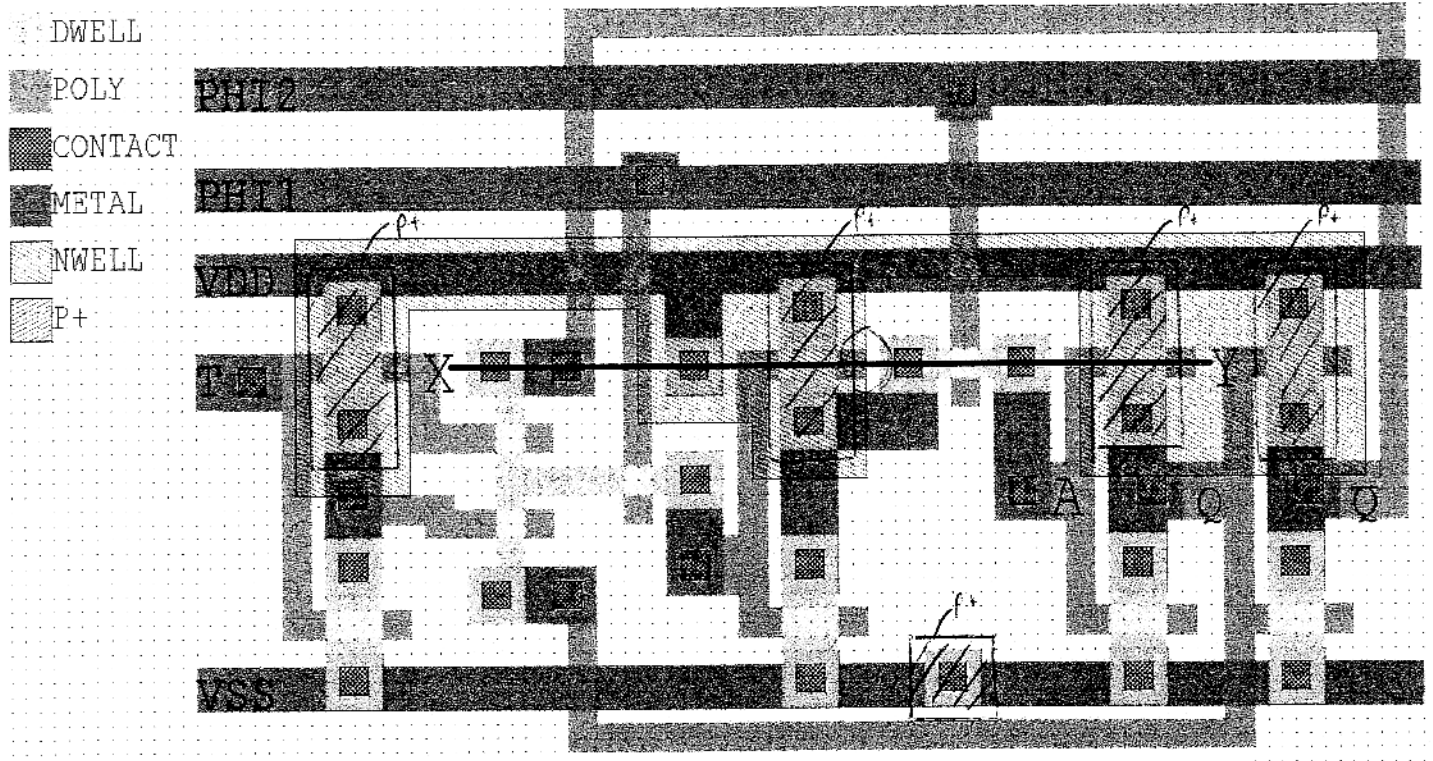

Fig. 1.1
1. Fig. 1.1 on p. 8 shows the layout of a circuit fabricated in the n-well CMOS technology used in Lab 2. The layout is not complete: the p+ mask is not shown. Draw the outline of this region (or regions) on the layout, and use cross-hatching to indicate the interior of the region. (Note: In this CMOS technology, by default any region which is not covered by the p+ layer receives the n+ implant) 4 marks
2. In the space provided below the layout in Fig. 1.1, carefully sketch a cross-section through the integrated circuit along line X-Y (i.e., show how the IC would look if cut along line X-Y and viewed from the side). Indicate the n-well and n+ and p+ regions on your cross-section. 16 marks
3. a) Underneath the layout of Fig. 1.1, draw the circuit schematic corresponding to the layout. Show the substrate (body) connection for each transistor. 10 marks
4. The layout of Fig. 1.1 is prone to latch-up. Explain why. Briefly explain how the layout could be modified to minimize the tendency for latch-up. 4 marks
5. a) Will the inverter in the circuit of Fig. 1.1 with input labelled "A" give equal output rise and fall times when driven by a square wave input swinging from 0 to V_{DD} ? Briefly explain. ~~5~~ 4 marks